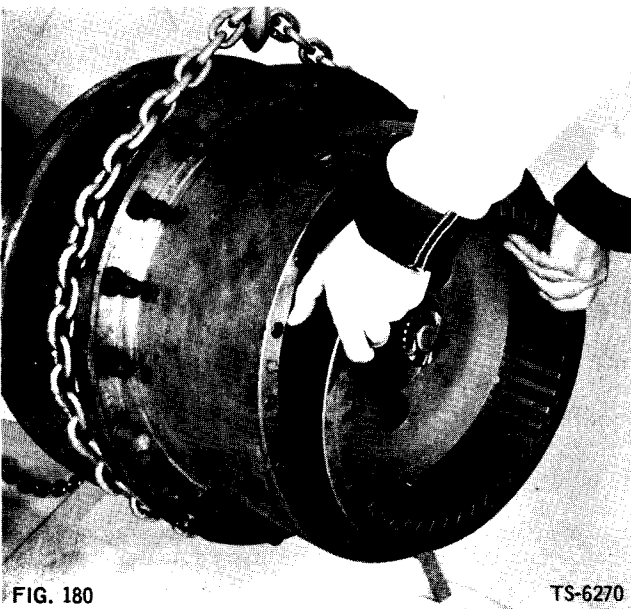

FIG. 180
25. Continue to support hub and drum with hoist. Position internal gear and hub on axle so that it engages splines on spindle (Fig. 180).